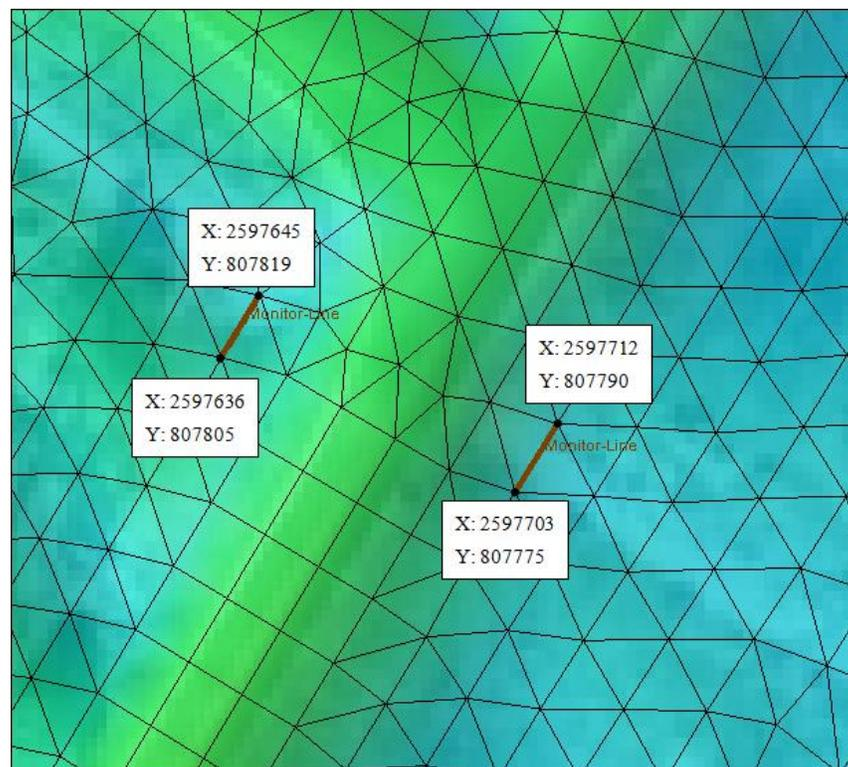

Figure 4 Coordinates for the four nodes
- Using the **Select Feature Point**  tool, select the top left arc node (upstream) and manually enter the X and Y values from Figure 4 into the coordinate fields at the top of the Graphic Window.
9. Repeat step 8 for the remaining nodes, and using the data from Figure 4.